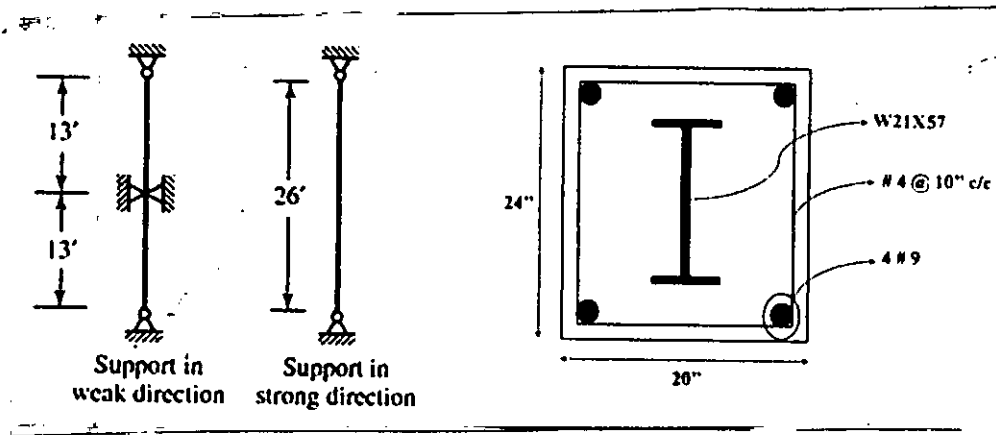

Figure 6
7. (a) The composite compression member shown in Figure 6 only has lateral support at mid-height in the weak direction and a concrete cover of 2.5 inches to the center of the longitudinal reinforcement. Using basic principles, calculate the nominal axial load and bending moment for the five points (according to AISC 2010) in the P-M interaction diagram about the weak axis bending of the Fully Encased Composite (EFC) column. Show the diagram in a neat sketch. Follow the AISC-LRFD method. (17 1/3)